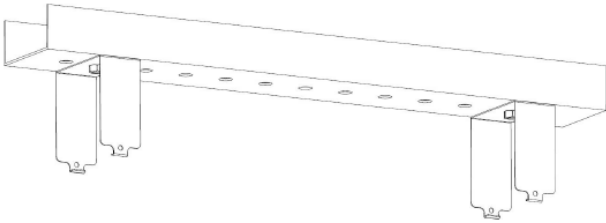

Fig. 4
1. Mount the brackets on the rail or ceiling. (fig. 4)